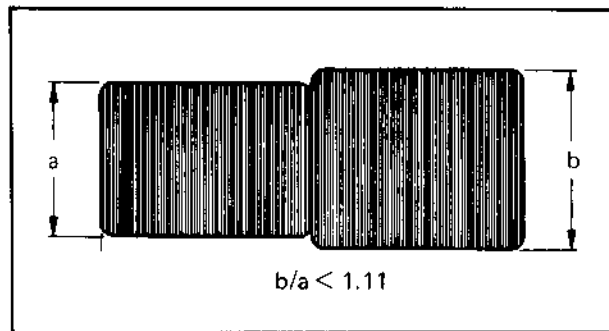

Fig. 6-40 FM channel balance
3. Check the level difference between the channels is within 1 dB as shown in Fig. 6-40.
3. The connect an attenuator between the TP-201 and the ground as shown in Fig. 6-40.